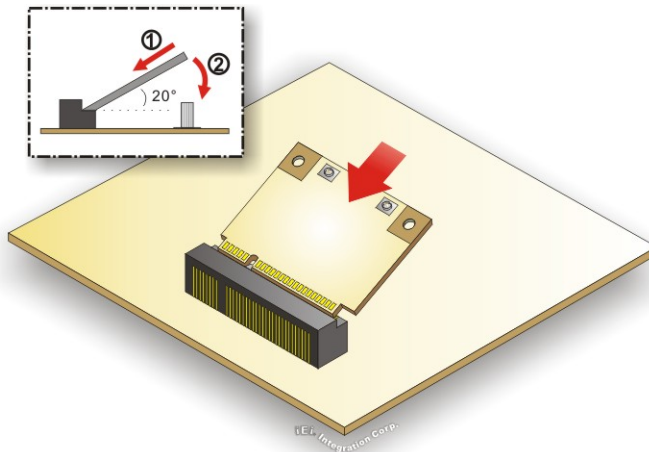

Figure 3-21: Inserting the WLAN Module
Step 5: Line up the notch on the WLAN module with the notch on the slot. Slide the WLAN module into the slot at an angle of about 20° (**Figure 3-21**).